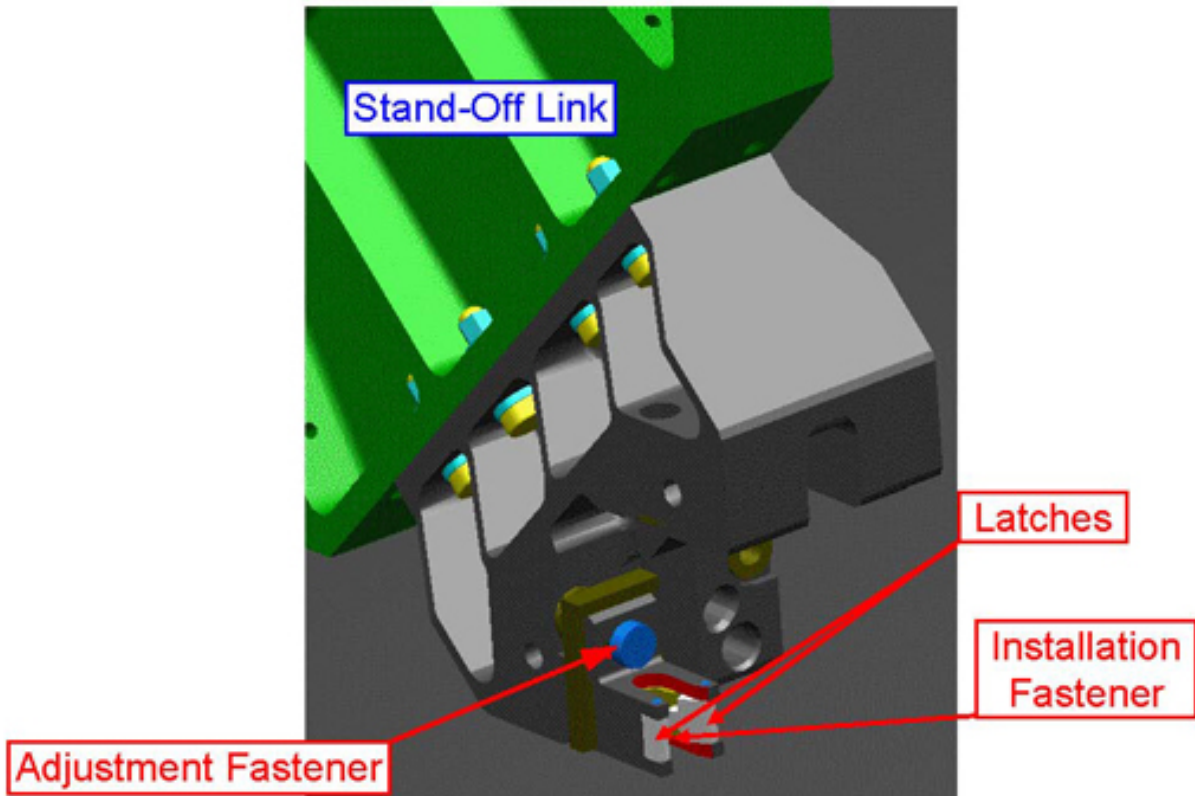

Figure 12. Columbus K-BAR Capture Mechanism
3. For the execution of following steps refer to Figure 12.